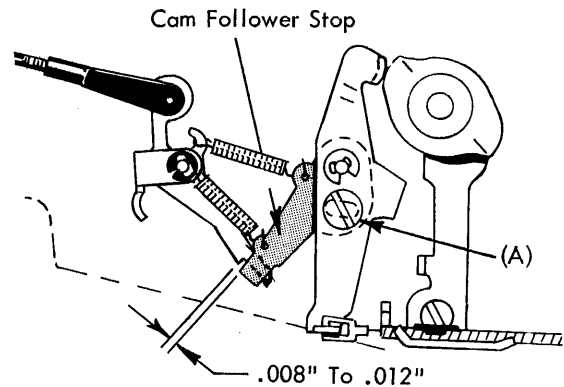

FIGURE 142.13 Cam Follower Adjusting Stop
11. Low Velocity Cam Follower Stop - With the cycle shaft latched at rest, adjust the stop for .008" to .012" clearance with the low velocity latch (Fig. 142.13). Loosen the binding screw "A" to make this adjustment.